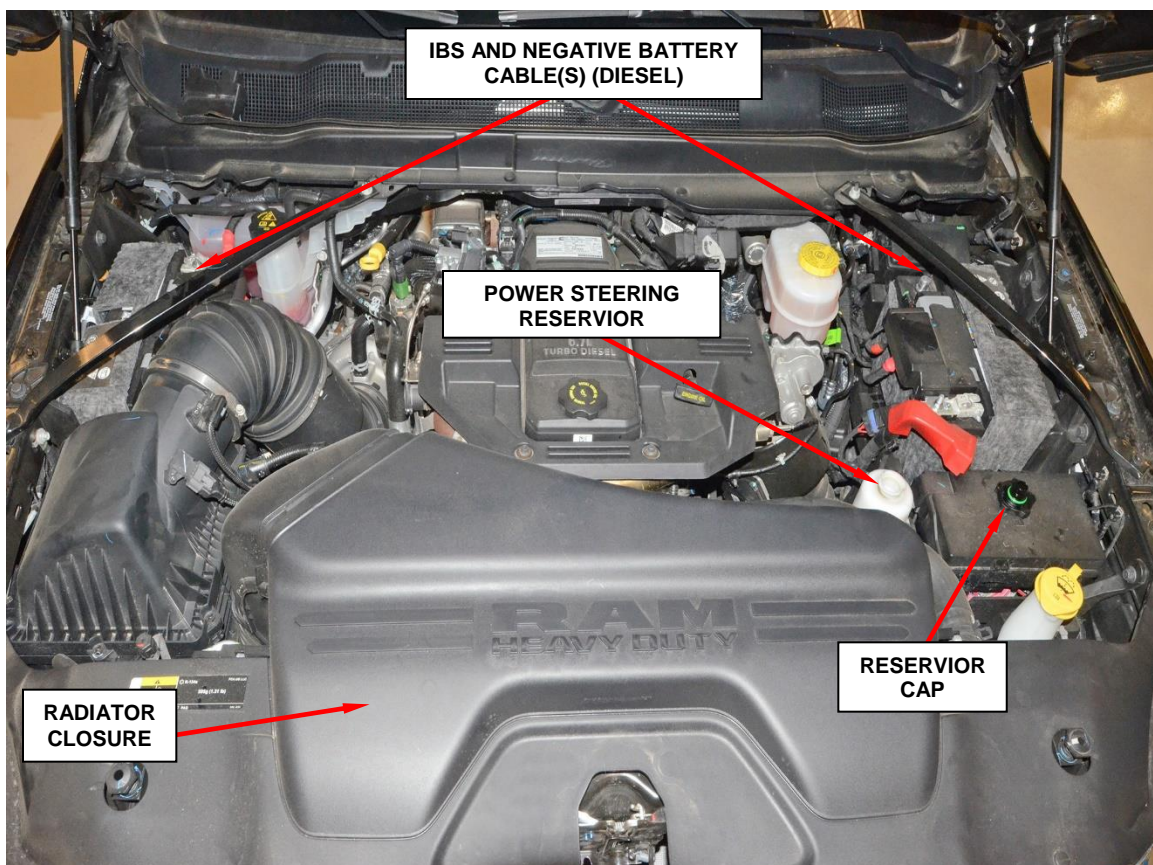

Figure 1 – Engine Compartment
2. Loosen the ground terminal nut and remove the negative battery cable(s) with IBS from the battery(s) and isolate it (Figure 1).
9. Remove the 14 push pins and the radiator closure (Figure 1).
23. Install the radiator closure with the 14 push pins (Figure 1).